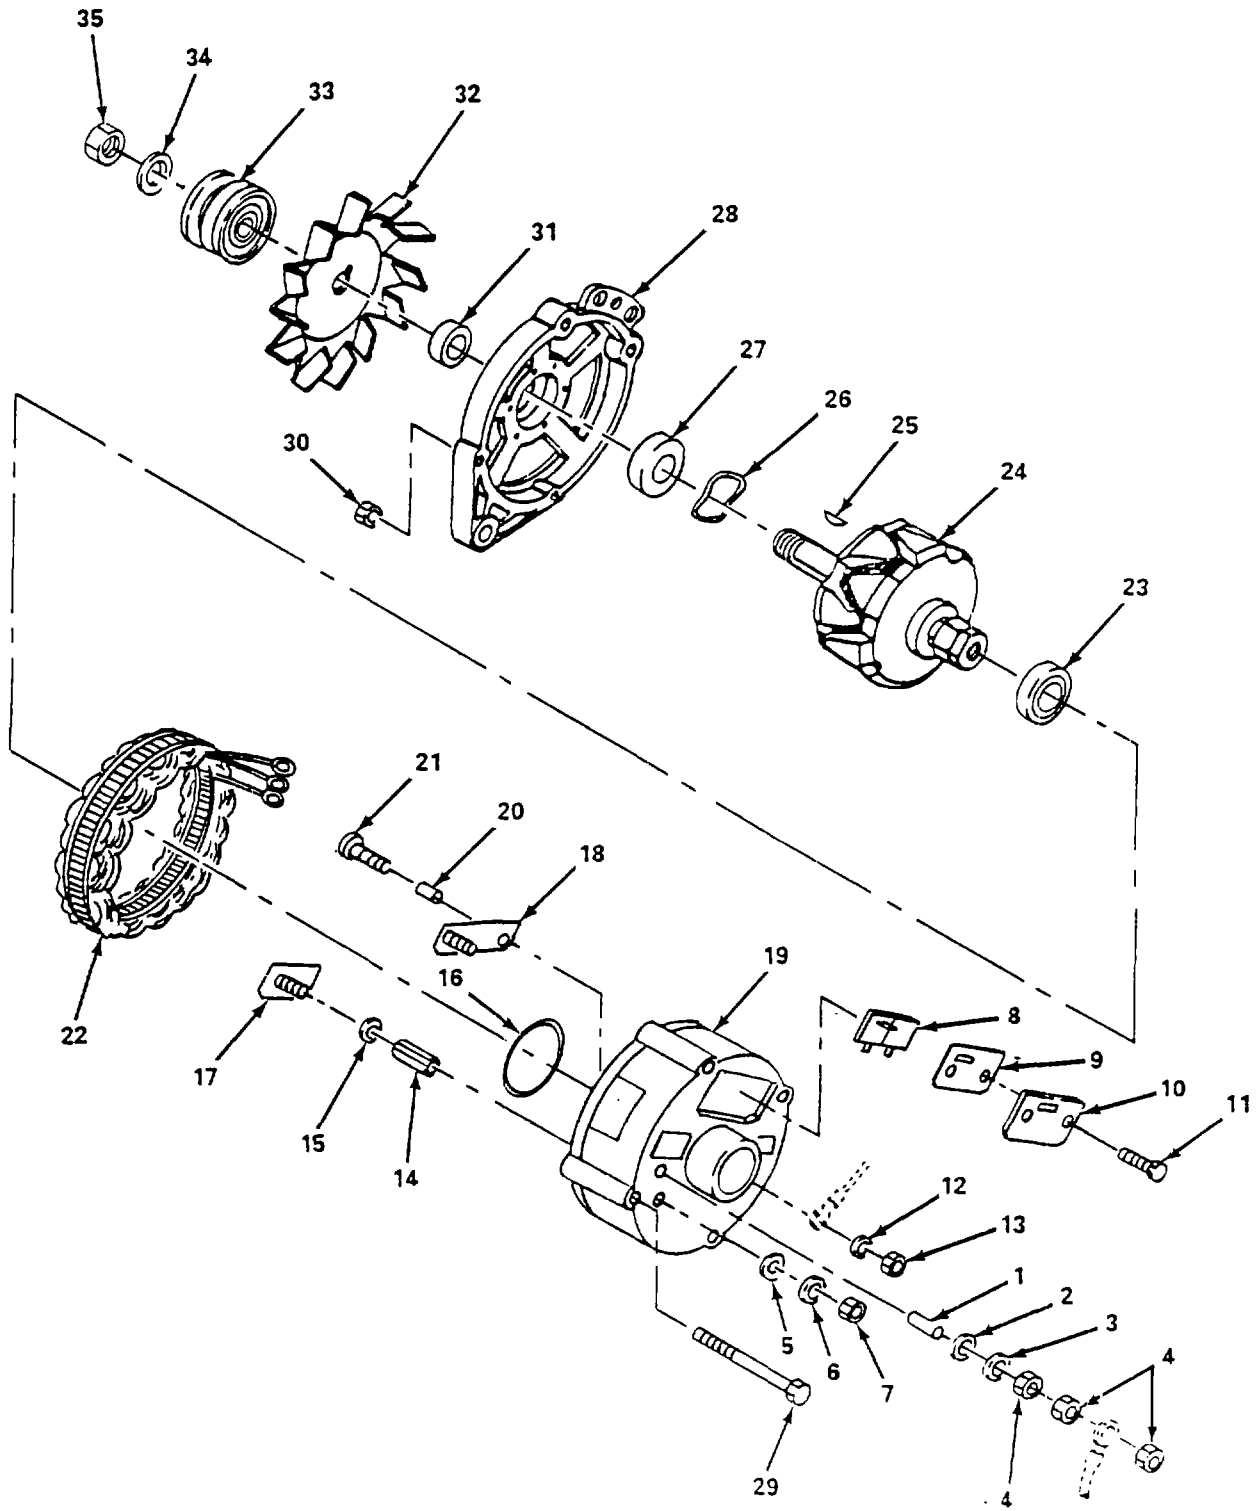

Figure 6-19. Alternator, Assemble.
- (o) Inspect rotor assembly (13) and replace if wiring is burnt or rotor assembly is otherwise damaged.
- (p) Inspect diodes (18) and (19), bush (26) and replace any item that has signs of burnt wire, body is cracked, or item is otherwise damaged.
- (q) Inspect front bearings (10) and (14) and replace if worn or otherwise damaged.
- (r) Inspect fan (4), pulley (3), and replace any item that is bent, cracked, or otherwise damaged.
- (s) Inspect bolt (7), spacer (5), insulator washers (21), (31), and (34), insulator sleeves (17), (22), and (35), terminal ground (24), and washers (28), (30), and (33), and nut (29) and (32) ,and replace all items if any one is cracked, worn, stripped, or otherwise damaged.
- (2) Assemble. (figure 6-19)
- (a) Install insulator sleeve (1), insulator washer (2), washer (3), and three nuts (4).
- (b) Install insulator washer (5), washer (6), and nut (7).
- (c) Install bush assembly (8), capacitor output (9), terminal ground (10), and secure with two screws (11).
- (d) Install washer (12) and nut (13).
- (e) Install insulator sleeve (14), insulator washer (15), and rear bearing (16).
- (f) Install diode (17) and (18) into rear housing (19) and secure with insulator sleeve (20) and bolt (21).
- (g) Install stator assembly (22), rear bearing (23), rotor assembly (24), and woodruff key (25).
- (h) Install front bearing retainer (26), front bearing (27), and front housing (28), and secure with four bolts (29) and nuts (30).
- (i) Install spacer (31), fan (32), pulley (33), and secure with lockwasher (34) and nut (35).